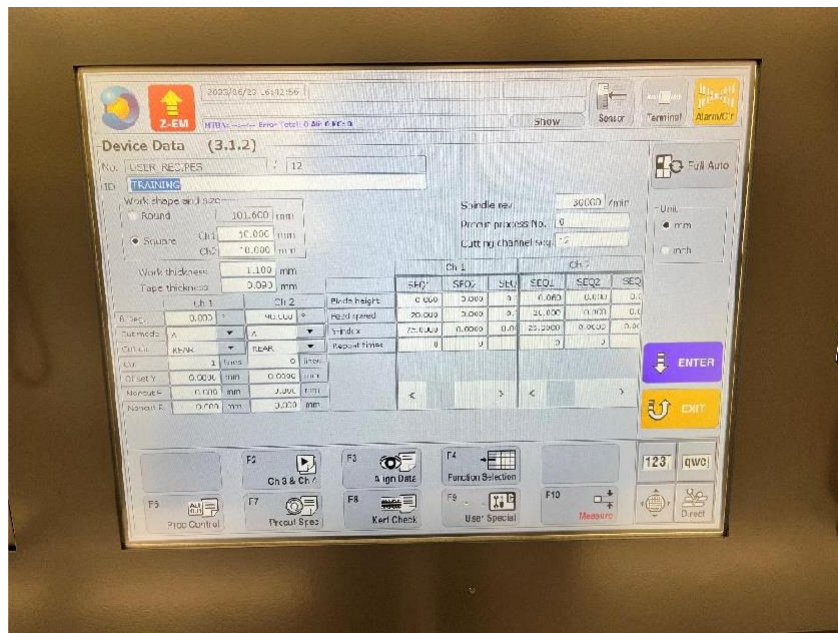

Figure 2: Device Data menu with parameters in millimeters.
- iii. See **Appendix A** and **Figure 2** for information about the recipe parameters.